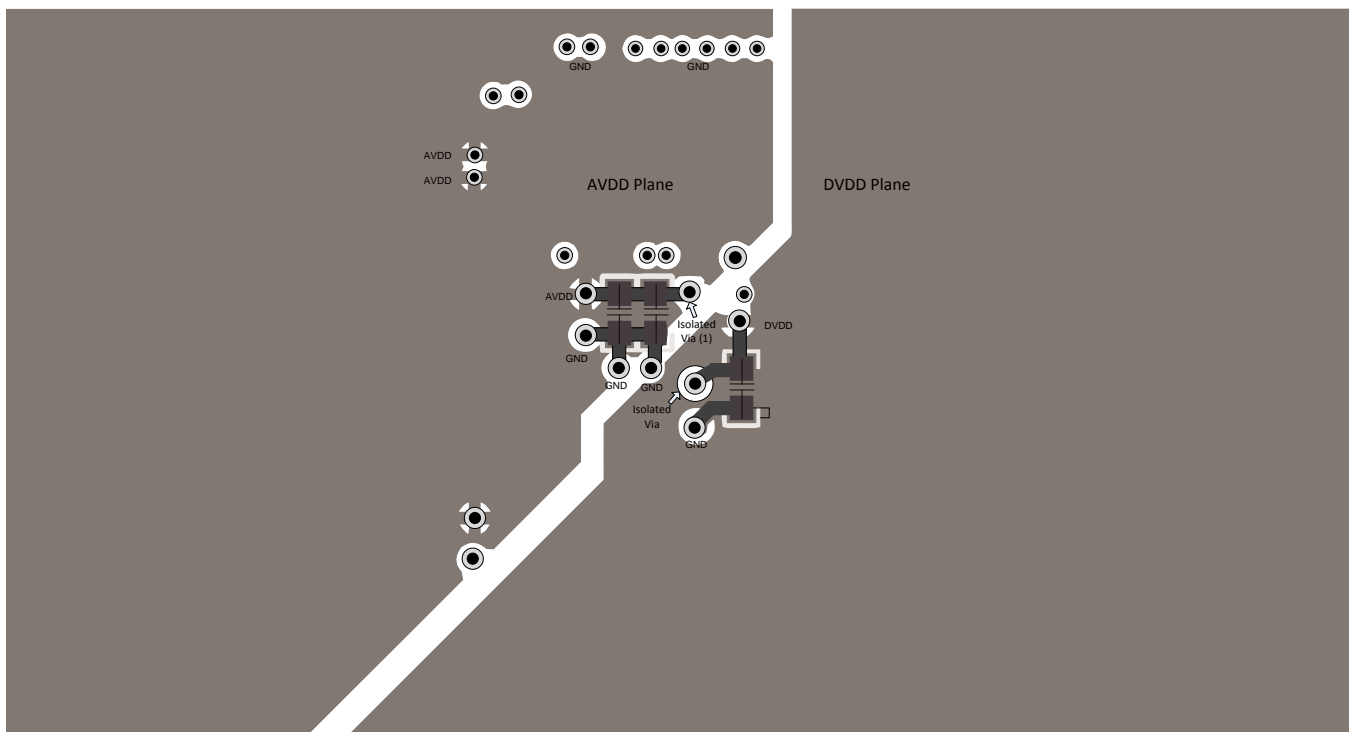

图 90. Bottom Layer Layout
- Power sources to the ADS8588H must be clean and well-bypassed. As a result of dynamic currents during conversion, each AVDD must have a decoupling capacitor to keep the supply voltage stable. Use wide traces or a dedicated analog supply plane to minimize trace inductance and reduce glitches. Using a 1- $\mu$ F, X7R-grade, 0603-size ceramic capacitor is recommended in close proximity to each analog (AVDD) supply pins. Bypass capacitors for AVDD pins 1 and 48 are located on the top layer; see 图 89. AVDD supply pins 37 and 38 are connected to bypass capacitors in the bottom layer using an isolated via (1); see 图 90. A separate via (2) is used to connect the bypass capacitor to the AVDD plane.
- For decoupling the digital (DVDD) supply pin, a 1- $\mu$ F, X7R-grade, 0603-size ceramic capacitor is recommended. The DVDD bypass capacitor is located in the bottom layer; see 图 90.